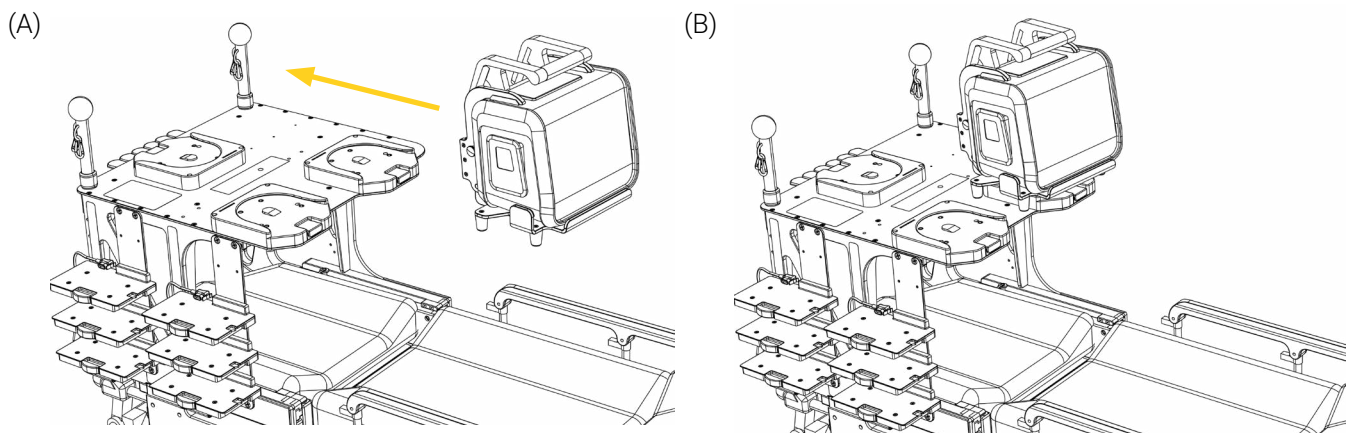

Figure 8: Installing a medical device on a Standard Surface Base
1. Align and insert the standard bottom disc located under the bracket of the medical device horizontally in the Standard Surface Base, on the top plate of the mobile structure until it is locked (Figure 8).